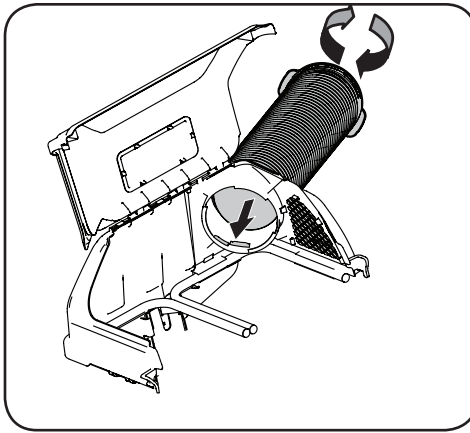

Figure 4-21
1. Thread the upper end of the chute tube securely into the upper chute support. There are two tabs on the lower inside part of the upper chute support to allow for secure threading. See Figure 4-21.